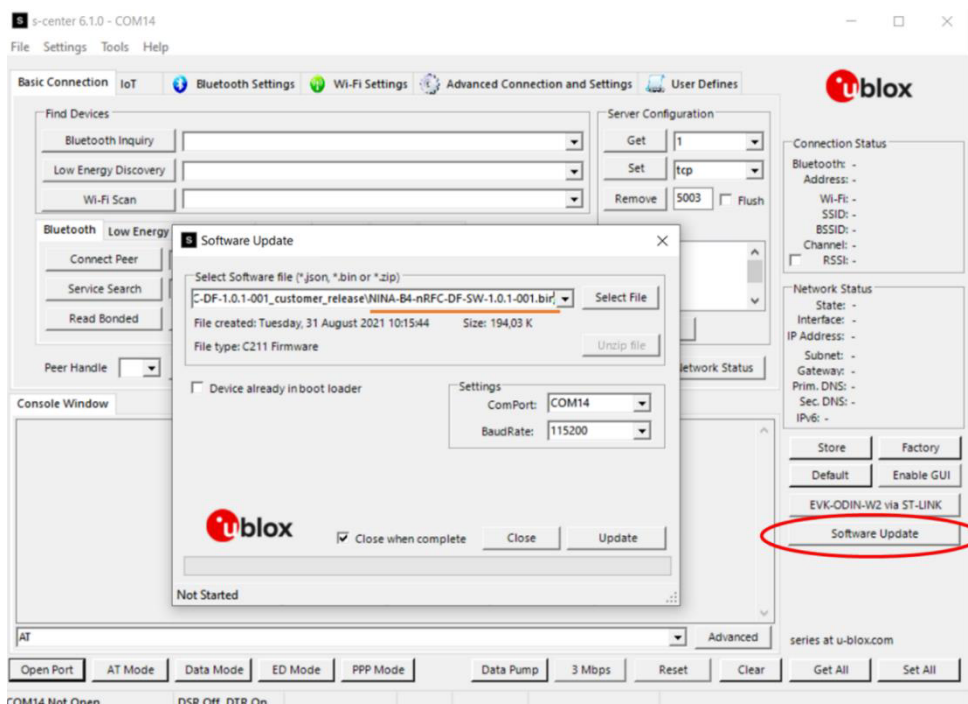

Figure 10: Updating the software on the board using s-center
4. In the “Software Update” dialog select the binary file in the software container, as shown in Figure 10. Make sure the flashing speed is set to 115200.